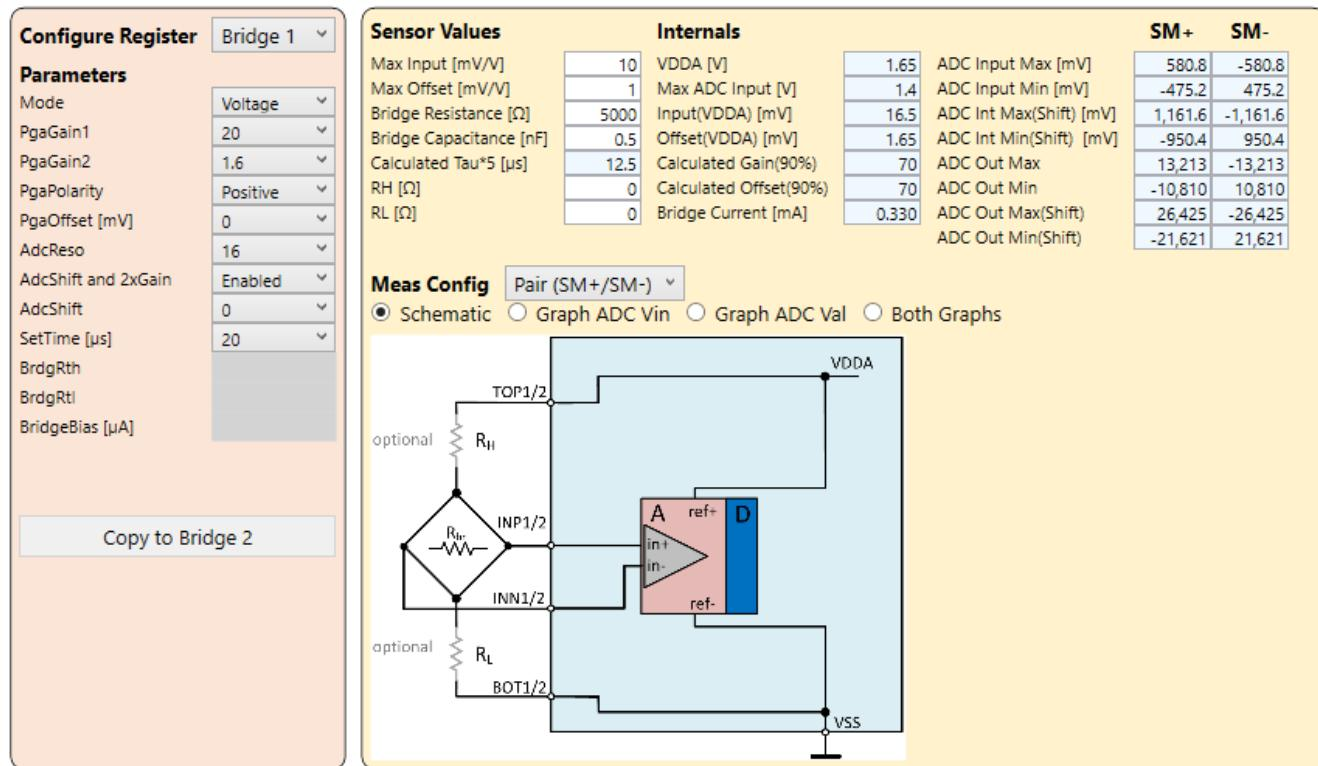

Figure 64. Voltage Mode
- Voltage: internal voltage supply (VDDA, refer to the ZSSC3281 *Datasheet* document), see Figure 64.